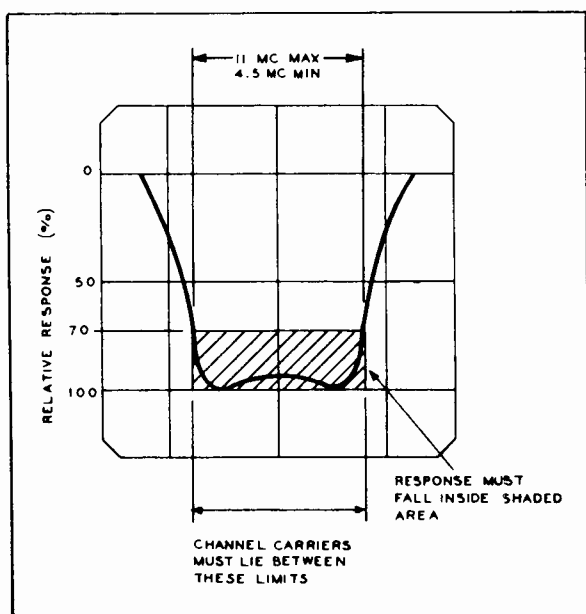

Figure 7. Television-Tuner Response Curve, Showing Band-Pass Limits
2. Establish the channel limits (see figure 7) by using the marker (AM r-f) signal generator to produce marker pips on the response curve; set the generator first to 210 mc., then to 216 mc.